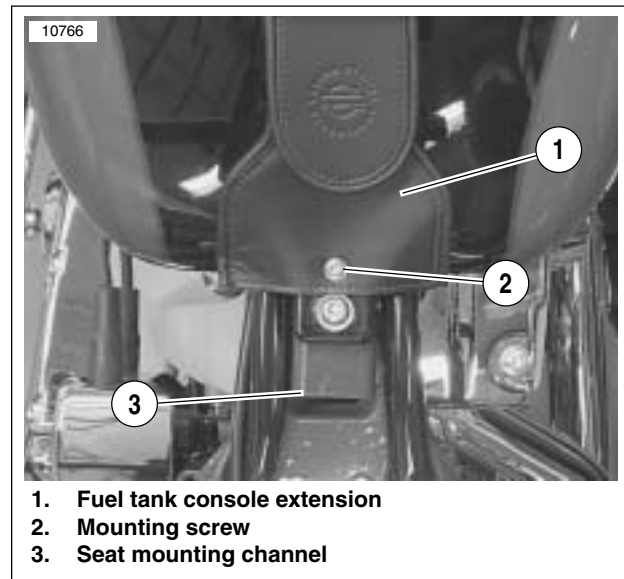

Figure 7-35. Fuel Tank Console Extension
See Figure 7-35. Remove screw (2) from fuel tank mounting tab. Insert screw through hole in rear end of fuel tank console extension (1) and screw into fuel tank mounting tab. Tighten securely.
Remove seat and mounting screw from carton. See Figure 7-35. Place tang on front underside of seat into channel in frame (3). Slide seat forward into place. Secure with mounting screw into rear fender.